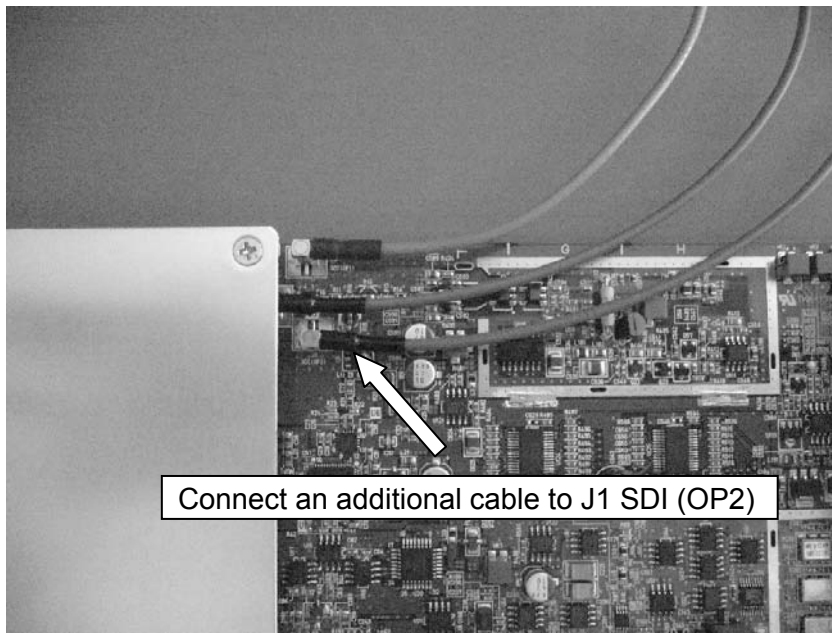

Figure 5-8 To install up to three of the LV 58SER01A and LV 58SER04
3. To install up to three of the LV 58SER01A and LV 58SER04, connect cables sold separately to J1 (OP2) on the LV 58SER02 as shown in Figure 5-8.